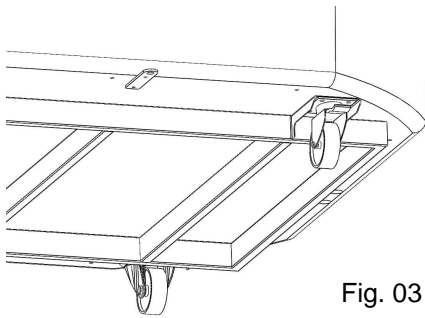

Fig. 03
- Before entering the kiosk, block the wheels to prevent it from moving. (Fig. 03)